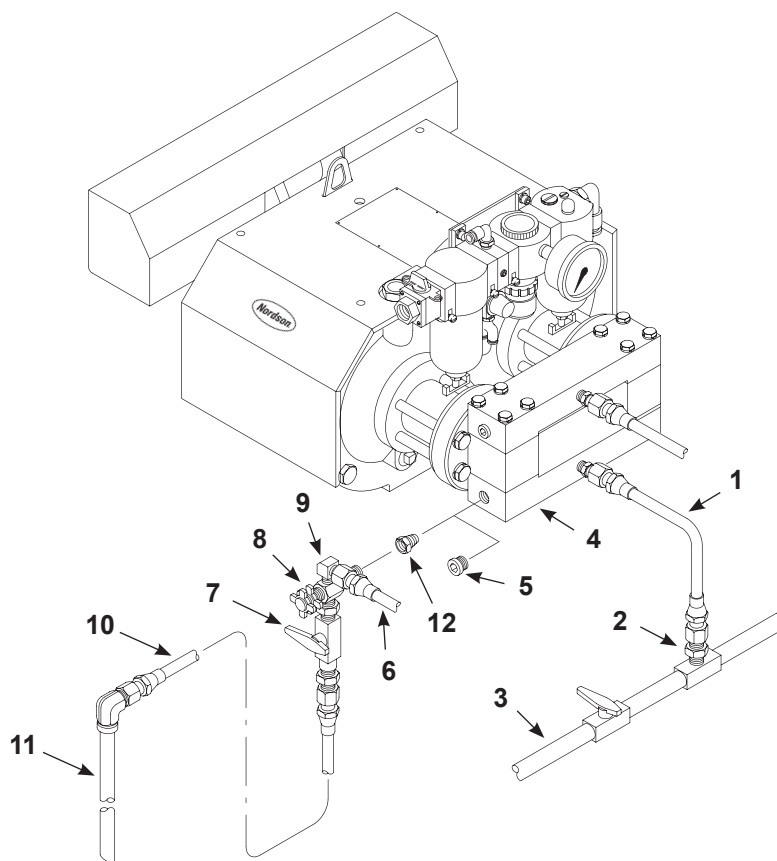

Figure 3-4 Air, Siphon, and High-Pressure Fluid Hose Connections, Solvent Chamber and Lubricator Fill
See Figure 3-4. Use the male connector (2) and siphon hose (1) provided with the pump. The hose will dampen pump vibration.
See Figure 3-4. Use two kits for a dual circulation installation. Place the drain rod (11) in a grounded waste container.